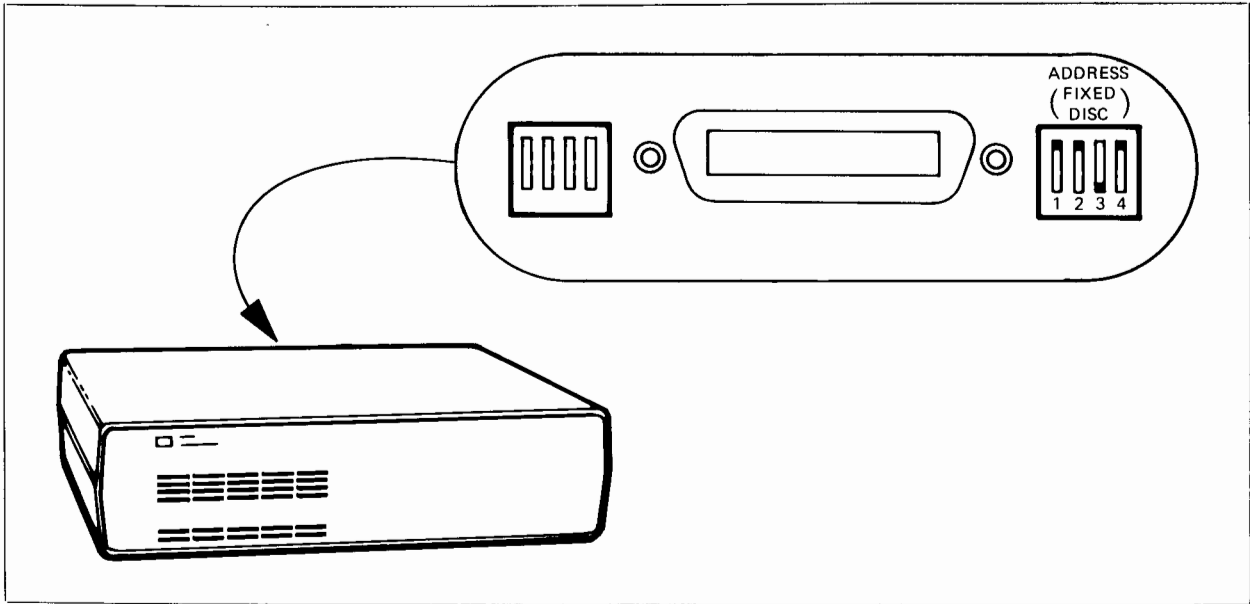

Figure 1-6. Disc Drive Address Setting.
1. Set the HP-IB switches labeled "ADDRESS (FIXED DISC)" on the back of the 9134A by pressing switches 1, 2 and 4 to the up position and switch 3 to the down position (HP-IB address "2"). Refer to Figure 1-6.